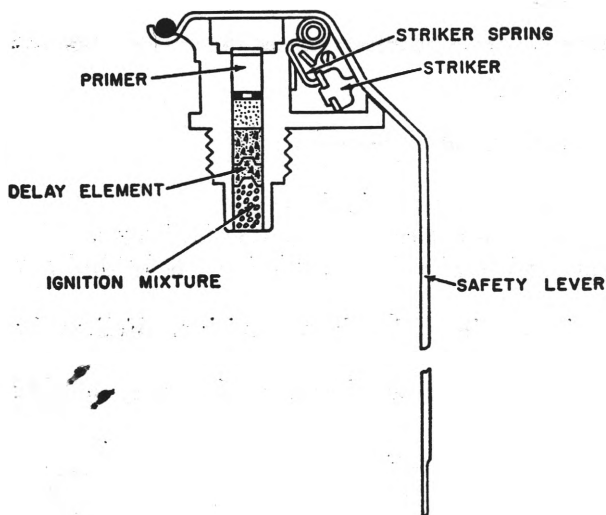

Figure 2. M201A1 grenade igniting fuze.
c. An M201A1 grenade igniting fuze (fig. 2) is screwed into the adapter in the top of the grenade body. In this position, the ignition mixture of the fuze is centered over the hole through the middle of the grenade and just slightly above the starter mixture coating of the top surface of the filling.
4. Functioning. When the grenade is thrown, the safety lever (fig. 2) of the fuze is released, allowing the striker to hit the primer which in turn ignites a 0.7- to 2.0-second delay element. Upon expiration of this time, the delay element ignites the starter mixture and the filling. Pressure developed by burning fuel blows the tapes from the four emission holes and blows smoke and agent from these holes for 15 to 35 seconds.